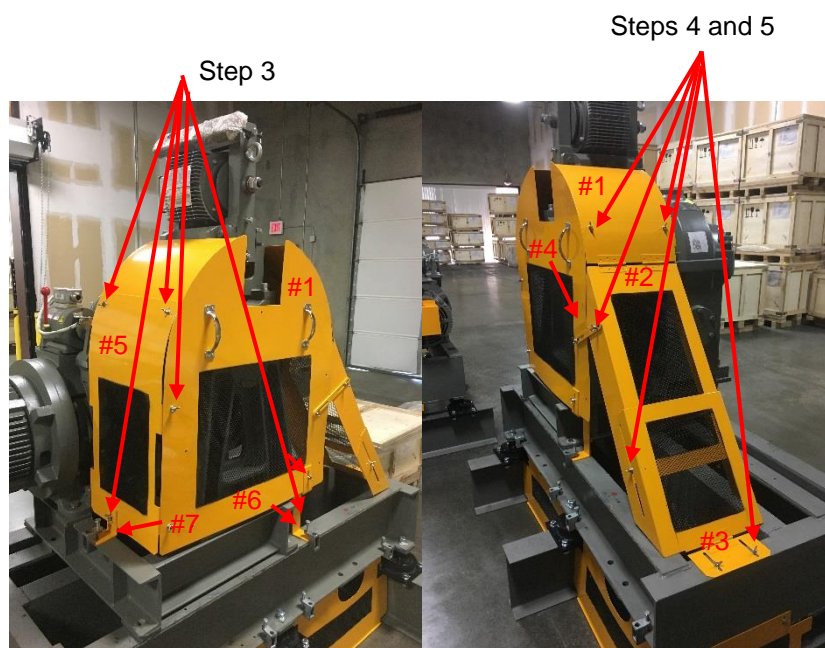

Figure 4 - Install Car Side and Deflector Side Rope Guards
**Step 3:** Install Car Side Rope Guard [#5] to Main Sheave Guard [#1] using (2) wing nuts, (2) wing bolts, and (4) lock washers and flat washers. Then Install L Bracket [#7] to the Car Side Rope Guard and the machine base using (1) wing bolt, lock washer, flat washer and beam clamp. Also install Long Bracket [#6] to Main Sheave Guard and machine base using (1) wing bolt, lock washer, flat washer and beam clamp. See Figure 4.
**Step 4:** Install Deflector Side Upper Rope Guard [#2] to Main Sheave Guard [#1] using (2) wing nuts, flat washers, and lock washers. Then attach Deflector Side Lower Rope Guard [#3] to Deflector Side Upper Rope Guard and Bedplate using (4) wing bolts, flat washers, and lock washers. See Figure 4.
**Step 5:** Attach the Support Plate [#4] to the Main Sheave Guard [#1] and the Deflector Side Upper Rope Guard [#2] using (2) wing bolts, flat washers, and lock washers. See Figure 4.
**Step 6:** Install Deflector Sheave Guard Right [#9], Deflector Sheave Guard Left [#10], (2) Bedplate Back Guards [#13] (not shown), and (2) Bedplate Side Guards [#12], to the bedplate using (2) each wing bolts, lock washers, and flat washers. (Right hand machine is shown as an example.)
**Step 7:** Install Deflector Hole Cover [#11] to the appropriate Deflector Sheave guard using (2) wing bolts, lock washers, and flat washers.